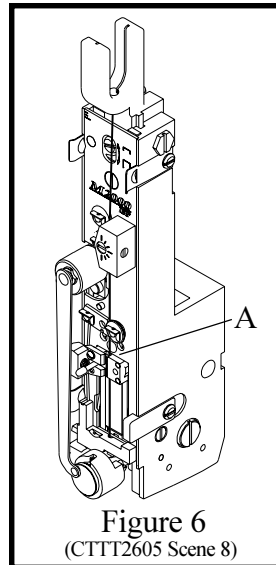

Figure 6
**MAKE ALL ADJUSTMENTS WITH THE POWER OFF AND THE STITCHING HEAD IN NEUTRAL POSITION! (Fig. 6)**